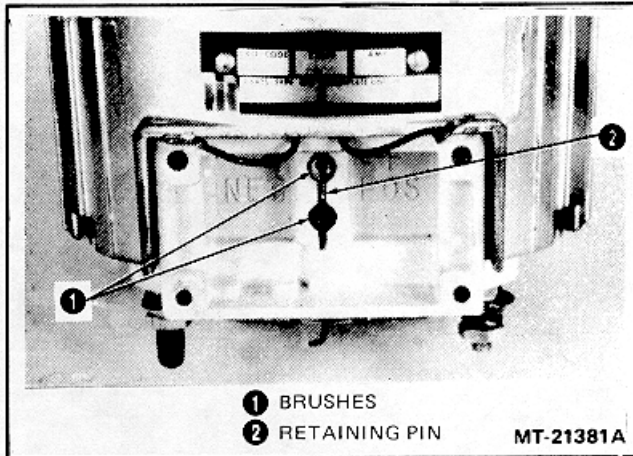

Figure 24 - Using Pin to Hold Brush Springs Depressed.
12. Insert outer brush and spring assembly into the housing and compress the brush spring, using a small screwdriver or similar tool. While holding the spring compressed, insert a pin through the hole in the rear of the housing so that the spring will be held in a compressed position. (A suitable pin can be made from a piece of 1.6 mm [1/16"] drill rod.) Install and compress the remaining brush and spring assembly in a similar manner. Hold the spring in a compressed position by pushing the pin farther into the housing (See Figure 24).